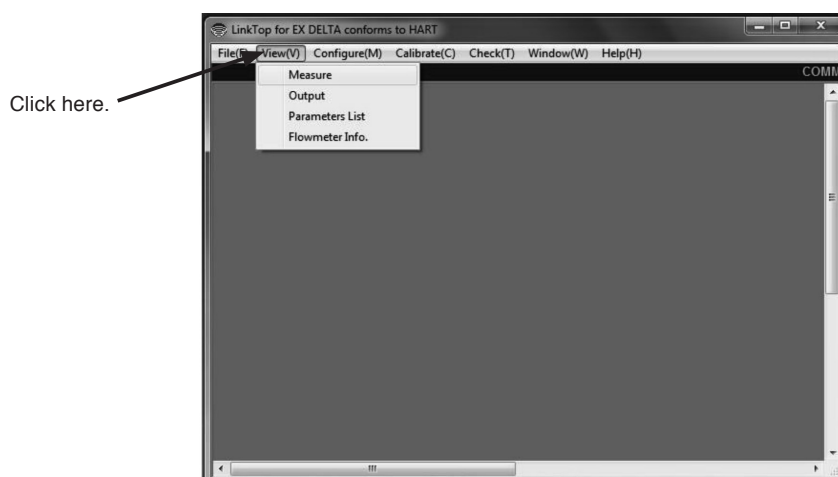

Fig.17
- ① Click on "View (V)" at top-level menu of the screen as shown in Fig. 17, select "Measure (P)" and click on again.